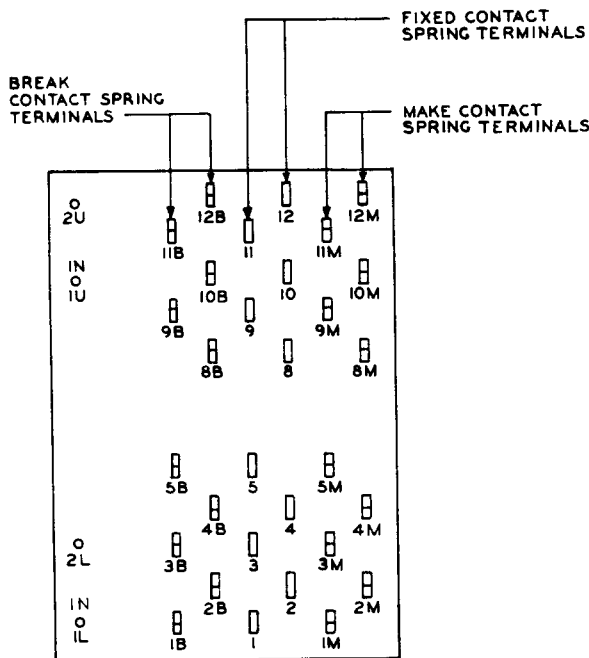

Fig. 13 - Winding and Spring Terminal Arrangement as Viewed From the Rear (terminal side) — AK- and AM-Type Relays
2.30 Spring Terminals (rear view): If the relay has a full complement of springs there are six vertical rows of five terminals each as shown in Fig. 13. Starting from the right, the first pair of rows is for the make springs, the second pair for the fixed springs, and the third pair for the break springs. The left row of terminals in each pair is odd-numbered from 1 to 11 starting at the bottom and omitting number 7. The right row of terminals in each pair is even-numbered from 2 to 12 starting at the bottom and omitting number 6. The terminals for make and break springs have the suffix M and B, respectively. The terminal rows for the make and break springs may have less than five terminals. The terminals provided in these rows are numbered the same as if the relay were equipped with a full complement of make or break springs. Identification of make or break springs may be facilitated by reference to fixed spring terminals, since all terminals in the same horizontal row have the same number.